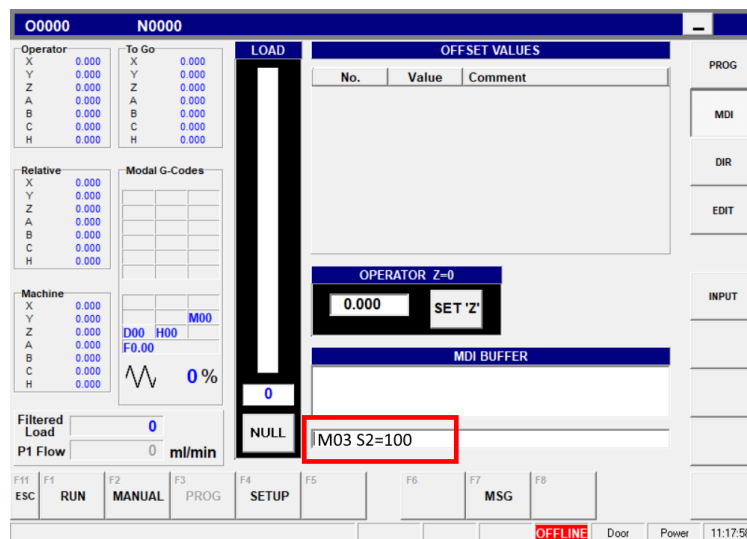

Figure 6 - MDI command line
11. Type “M03 S100” at the “MDI” command line and then press “Enter”. See Figure 6 - MDI command line.